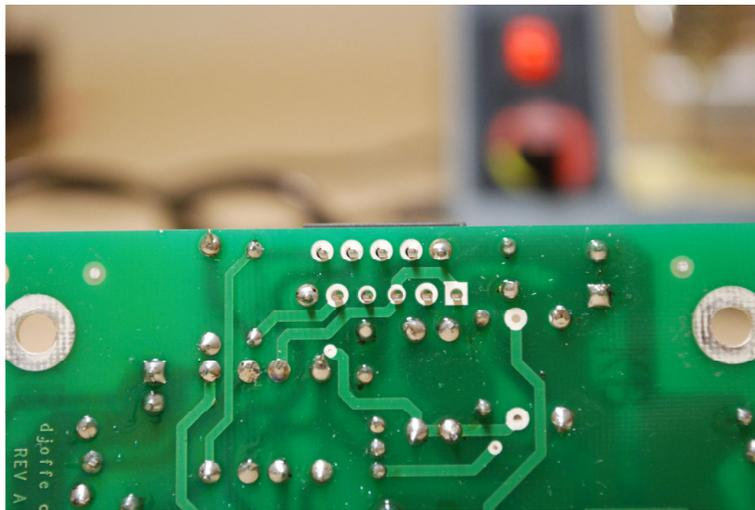

Figure 15-LM3886 installation step three, just the corner pins are soldered
4. Solder just the corner pins of the LM3886, as shown in Figure 15. Make sure that the LM3886 is straight and level above the board as shown in Figure 16. Your set up won't look exactly like this because the kit is now supplied with the metal tab LM3886, and you will not have placed thermal compound on the LM3886 at this point.